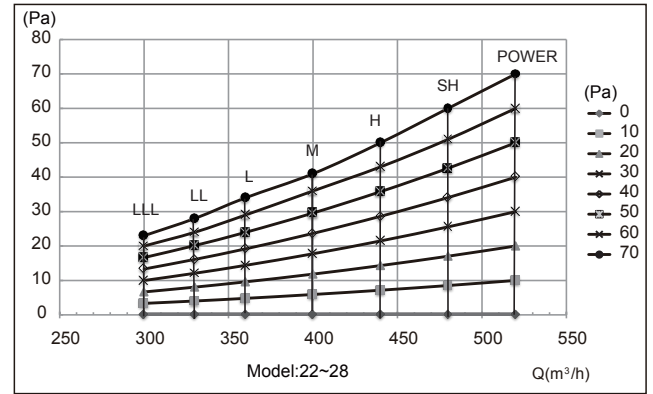
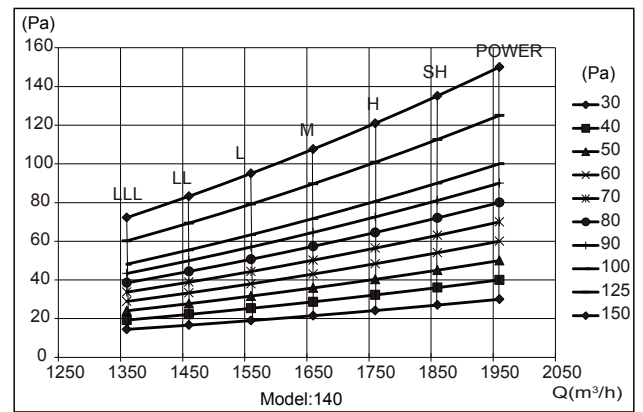

Fig. 6-2
Fig. 6-10
- 3) Before installing the air duct, ensure that the static pressure of the air duct is within the permitted range of the indoor unit (Refer to the IDU technical manual). Figure 6.2 to Figure 6.10 show the static pressure curve for indoor units.